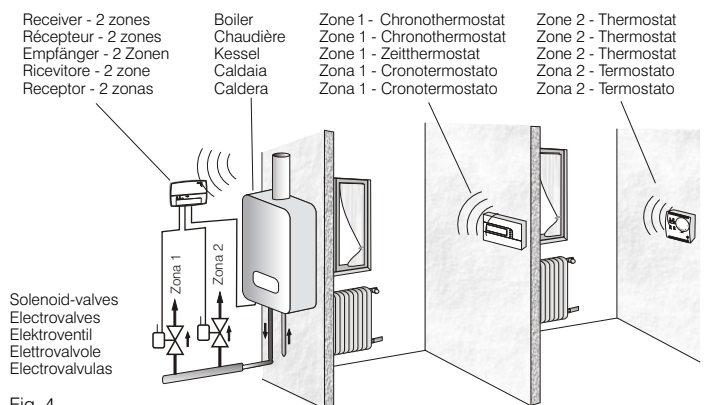

Fig. 4
B) 2-zone system (fig. 4) - composed by: